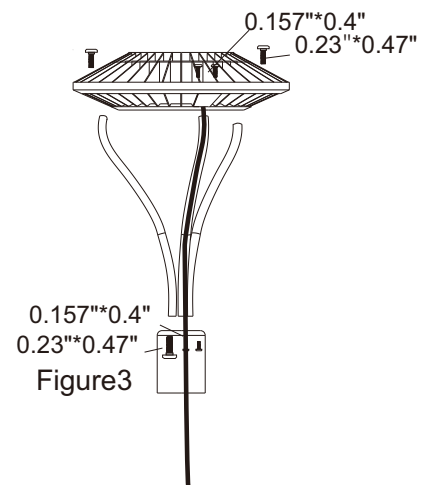

Figure3
3. Twist the corresponding screw into the corresponding lever arm and tighten it. (Figure 3)